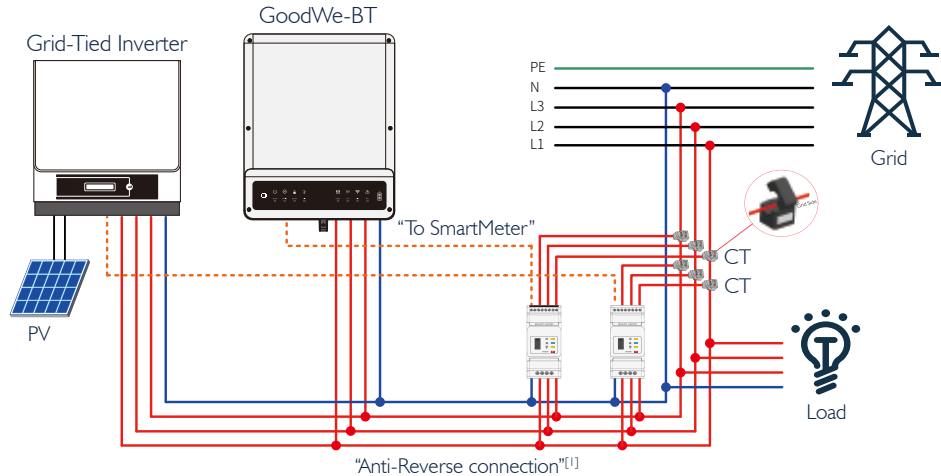

Figure 2.4.2-8
•Connection Diagram as below (Figure 2.4.2-8)